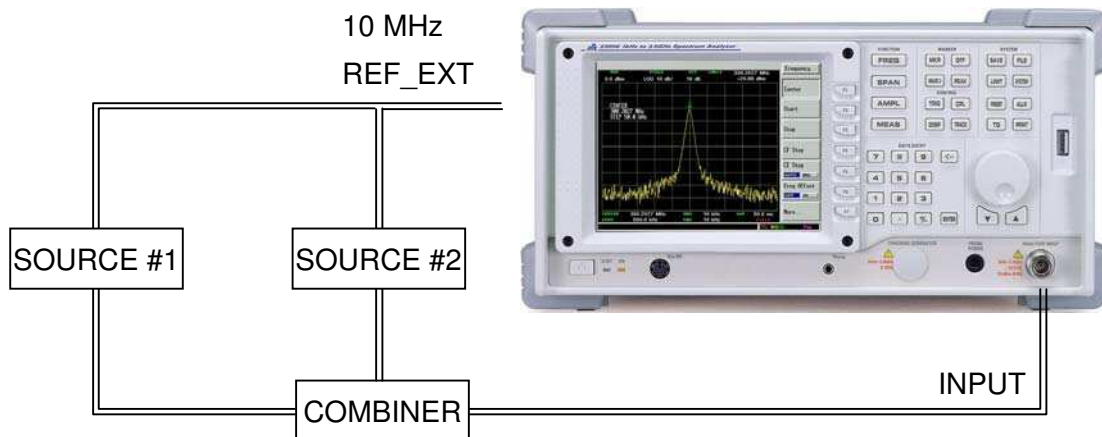

Figure 2-3. Setup for Obtaining Two Signals
1. Connect two sources to the analyzer **RF INPUT** as shown in Figure 2-3.